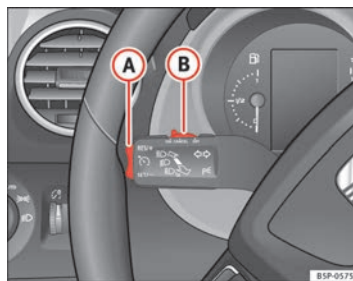

Fig. 155 Turn signal and main beam headlight lever: switch and rocker switch for the cruise control
- Press the upper part **RES/+** of the rocker switch ⇒ fig. 155 **A** to increase the speed. The vehicle will continue to accelerate as long as you keep the rocker switch pressed. When you release the switch, the new speed is stored.
Cruise control is switched off if you reduce speed by depressing the brake pedal. You can reactivate the control by pressing once on the upper part of the rocker switch **RES/+** → page 194, fig. 155 **A**.